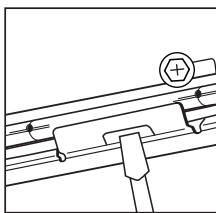

Figure 12
Step 2. Slide frame along bar hangers into desired location. Use locking screws or slot to secure (Fig. 12).